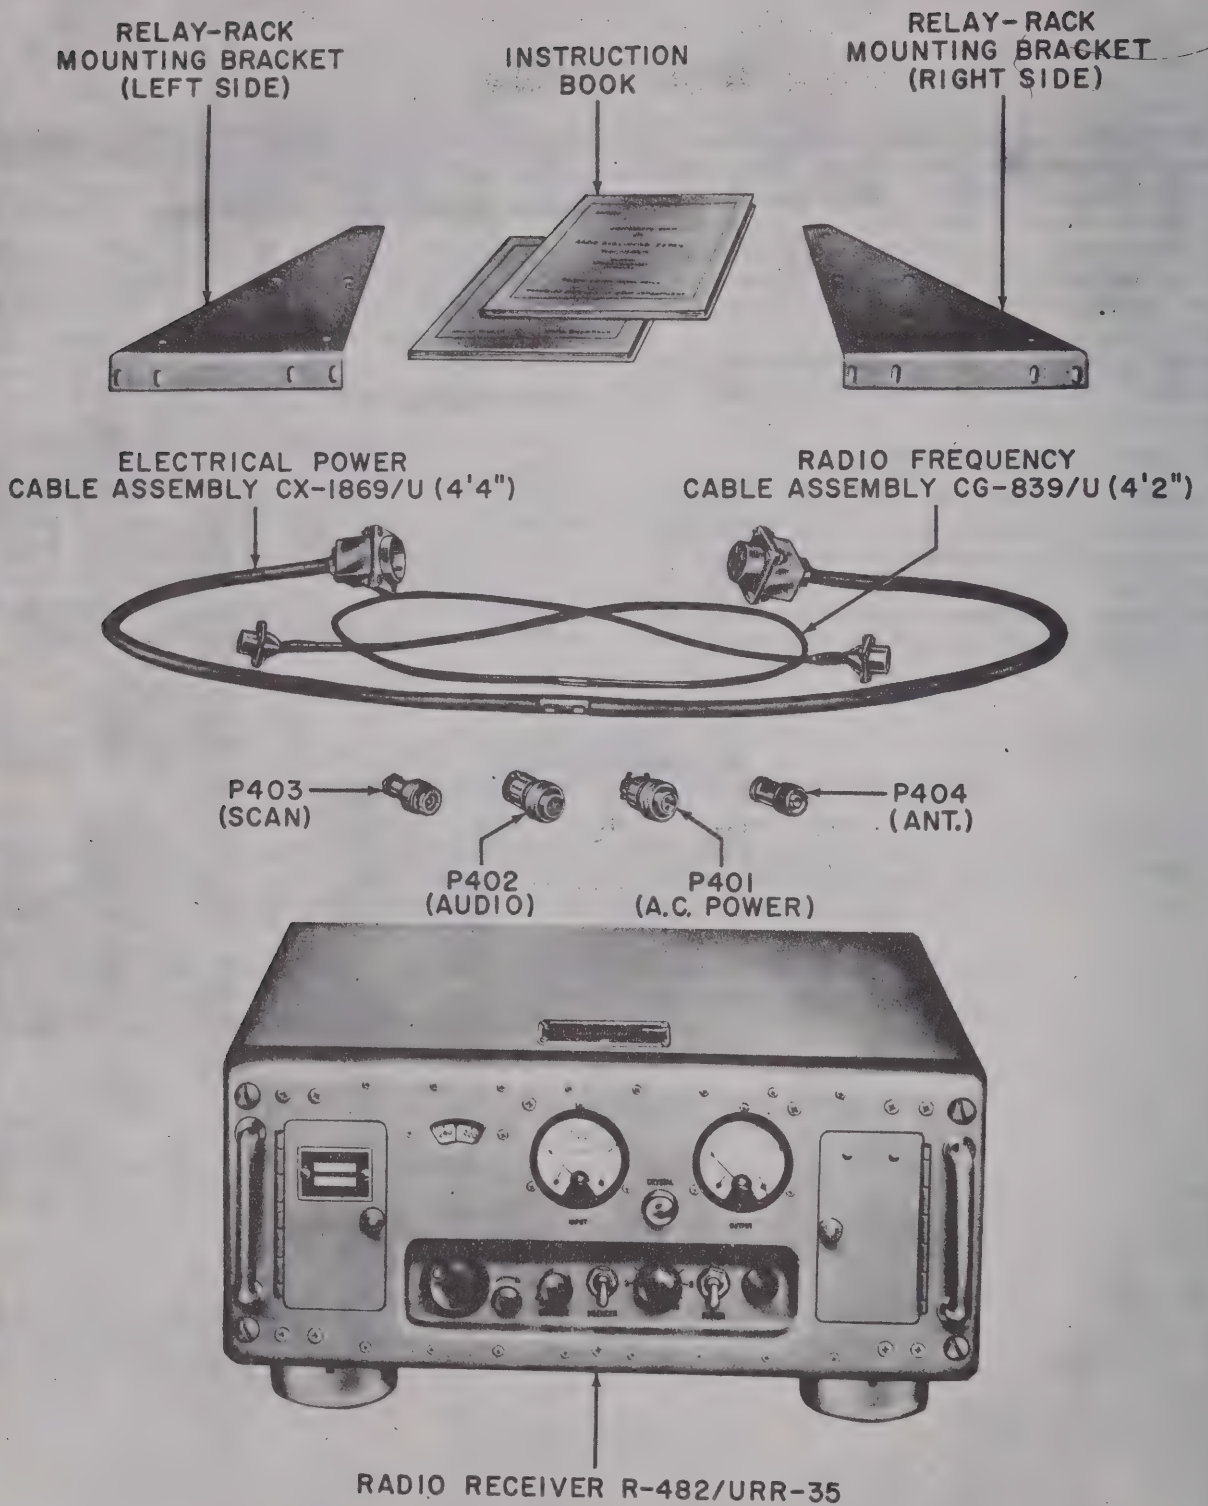

Figure 1-1. Radio Receiving Set AN/URR-35
c. **EQUIPMENT ARRANGEMENT.**—Radio Receiving Set AN/URR-35 is shown in figure 1-1. It consists of Radio Receiver R-482/URR-35, a pair of auxiliary angle brackets for relay-rack mounting, four plugs to mate with receptacles on the receiver for external connections, *Electrical Power Cable Assembly CX-1869U. *Radio Frequency Cable Assembly CG-839/U, and two copies of the instruction book. The receiver proper consists of a panel, frame and chassis assembly housed in a cabinet fitted with shockmounts. The equipment may be mounted on a bench or other firm horizontal surface, or (by attaching brackets) in a standard 19-inch relay rack.
Connector plugs P401 through P404 (see figure 1-1) are supplied with the equipment for use as required. Through connectors P401 and J401, a-c power is sup-
*b.** TEST CABLE ASSEMBLIES.—Two test cable assemblies, shown in figure 1-1, are supplied with the equipment for use during maintenance procedures. When the receiver is removed from the cabinet during such procedures, these cable assemblies are used to connect the connector plugs on the rear of the receiver to the receptacles on the base plate of the low-pass filter; refer to preceding subparagraph *g*. Radio Frequency Cable Assembly CG-839/U (W601) connects the antenna input connector on the rear of the receiver chassis to the antenna input circuit of the filter assembly. Electrical Power Cable Assembly CX-1869/U (W602) connects the receiver power and audio circuits to the filter assembly.